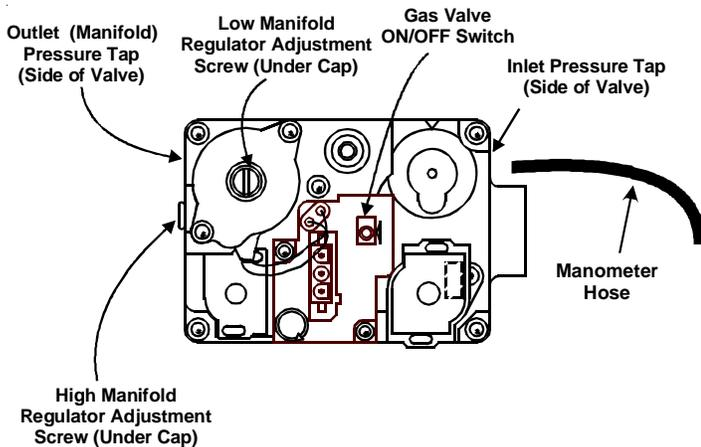

Figure 2
2. Connect a calibrated water manometer or appropriate gas pressure gauge at either the gas valve **inlet** pressure tap or gas piping drip leg (Figure 2).